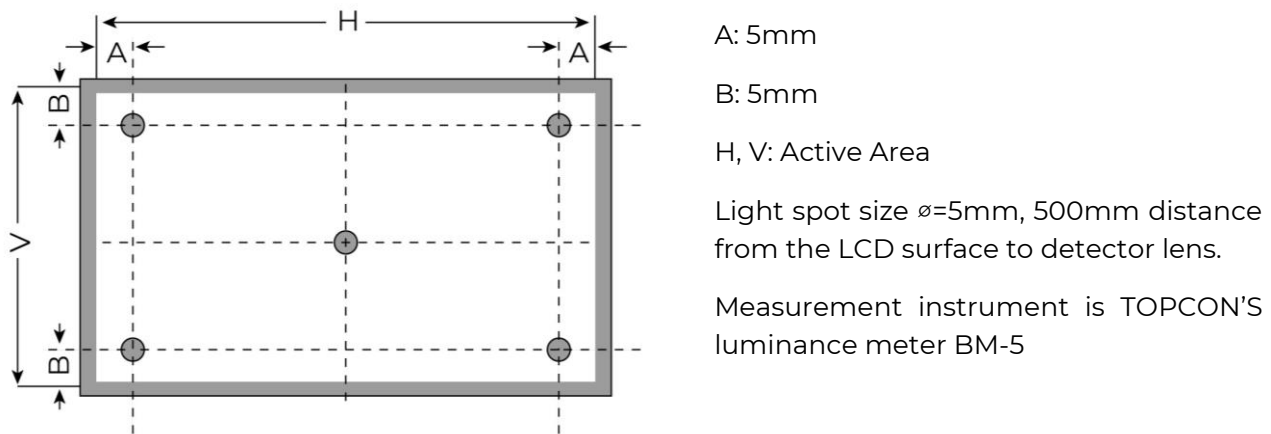

Figure 2. Measuring method for Contrast ratio, surface luminance, Luminance uniformity, CIE (x, y) chromaticity
Note 1. Contrast Ratio (CR) is defined mathematically as below, for more information see Figure 2.
Note 2. Surface luminance is the LCD surface from the surface with all pixels displaying white. For more information see Figure 2.
Note 3. The uniformity in surface luminance δ WHITE is determined by measuring luminance at each test position 1 through 5, and then dividing the minimum luminance of 5 points luminance by maximum luminance of 5 points luminance. For more information see Figure 2.
Note 4. Response time is the time required for the display to transition from white to black (Rise Time, Tr) and from black to white (Decay Time, Tf). For additional information see Figure 2. The test equipment is BM-7A.